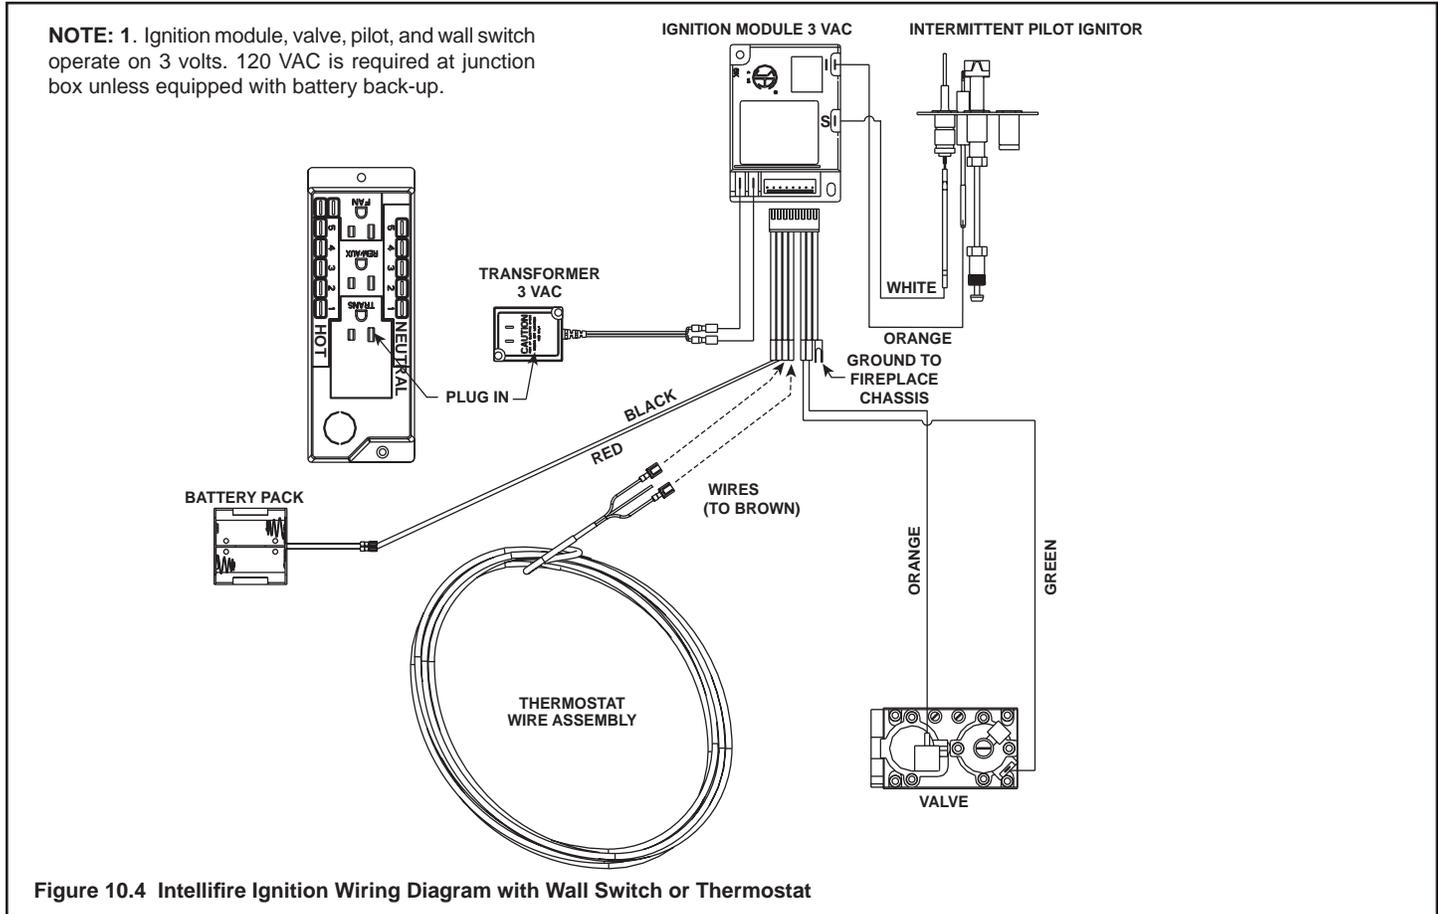
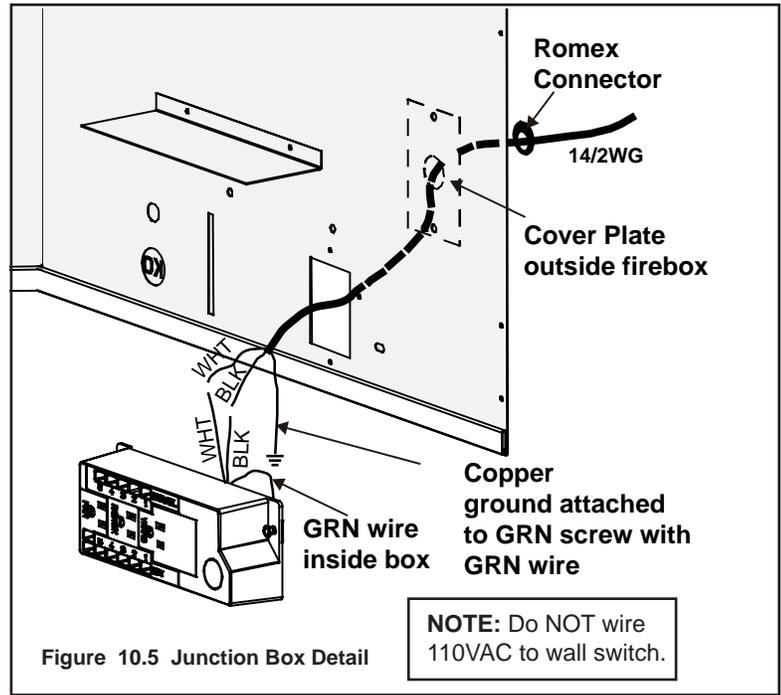

Figure 10.4 Intellifire Ignition Wiring Diagram with Wall Switch or Thermostat
Figure 10.5 Junction Box Detail
This appliance requires a 110 VAC supply to the appliance junction box for operation. A wiring diagram is shown in Figure 10.4 and Figure 10.5.
- Remove the cover plate located on the outer shell - right side (see Figure 10.5).
- Remove the screw attaching the junction box/receptacle to the outer shell, rotate the junction box inward to disengage it from the outer shell (see Figure 10.5).